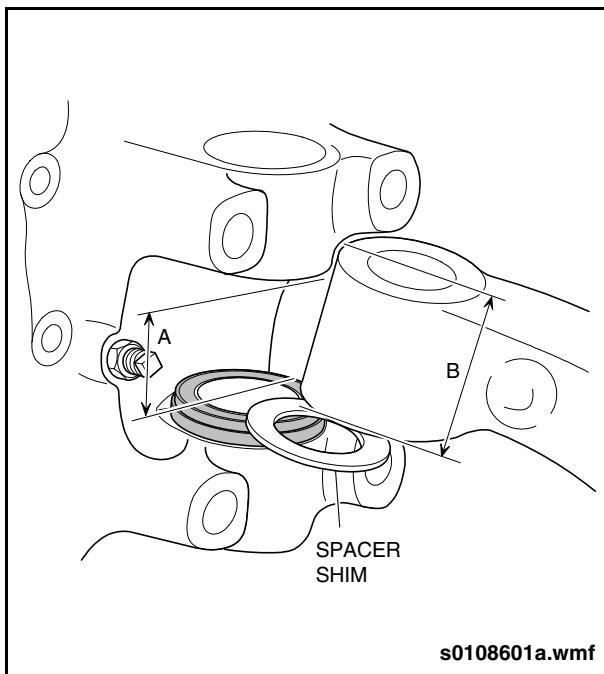

Fig. 1-28: Steering Knuckle Spacer Shim
- a. Measure space between lower surface of upper king pin boss on knuckle and thrust bearing face. Dimension "A". *See "Fig. 1-28: Steering Knuckle Spacer Shim" on page 26.*